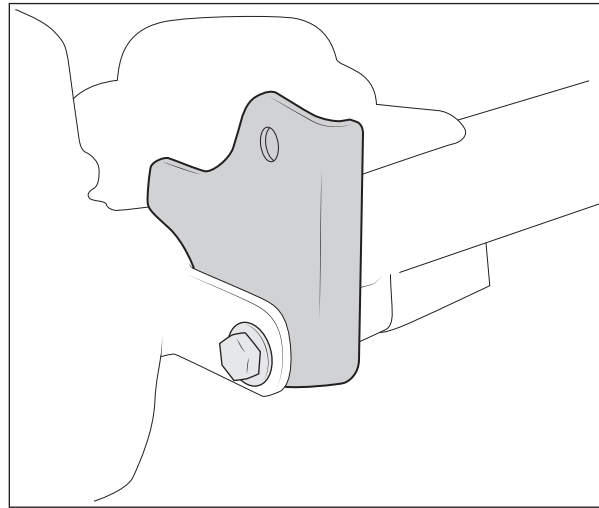

Figure 24
19. Install driver-side sway bar relocation bracket. Position sway bar bracket over the axle tube as shown (Fig. 24). Use the supplied 1/2" x 1 1/2" bolt to attach the bracket to the axle and tighten to 100 ft-lbs.